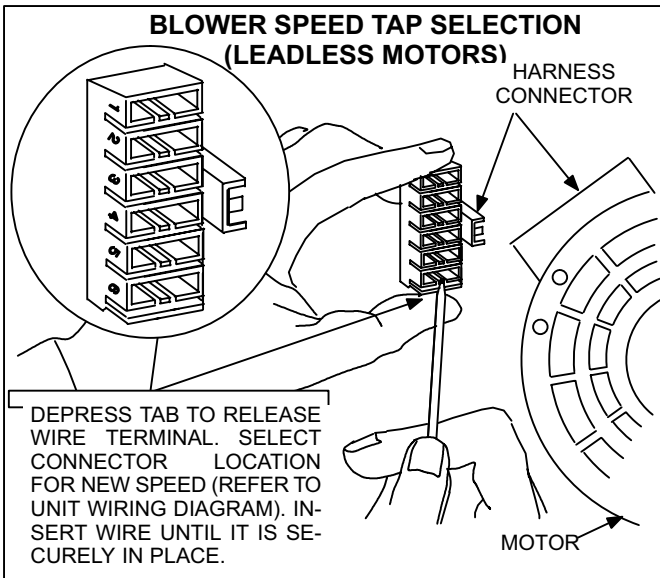

FIGURE 34
- 5- Depress harness connector tab to release wire terminal. Select connector location for new speed (refer to unit wiring diagram). Insert wire terminal until it is securely in place. See figure 34.